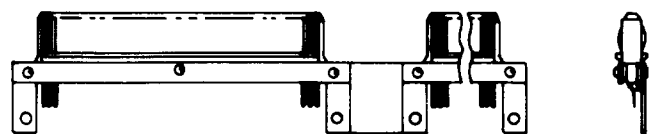

Fig. 19—986A Connector
**2.15 986A:** The 986A connector (Fig. 19) consists of two 946C connectors and two molded insulators mounted to a common bracket. The terminal leads are soldered to both sides of the printed wiring board and 164 terminals are provided. The connector is restricted for use in RSS applications and is intended for use only with the 987A connector.